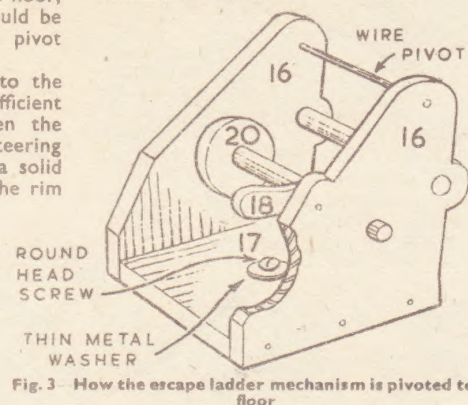

Fig. 3—How the escape ladder mechanism is pivoted to floor
Parts Nos. 16 and 17 are cut from the sheet and accurately glued and nailed together. The sides (16) are stiffened by adding the $\frac{1}{4}$ in. rod shown, as 'cross spindle' in the detail Figs. 3 and 4, and also by the wire on which the ladder is supported and pivoted.